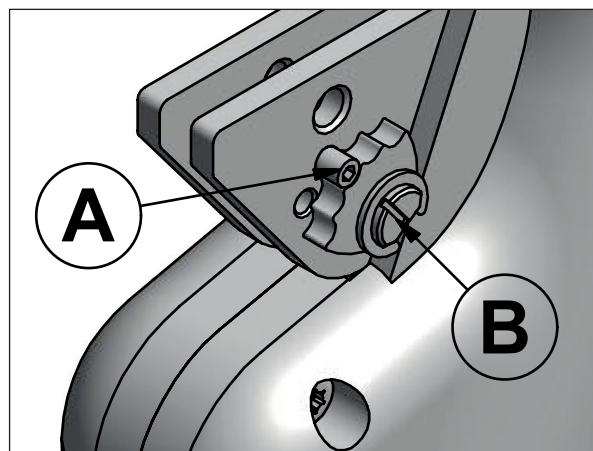

Figure 15
## Setting the crimp height (Figure 15)
Adjustment of crimp height to be done only when the tool is completely opened (i.e. in the lower final position fig. 15) and the battery is unplugged. Never actuate the tool with unsecured adjusting disc (e.g. missing screw (A), fig.15).